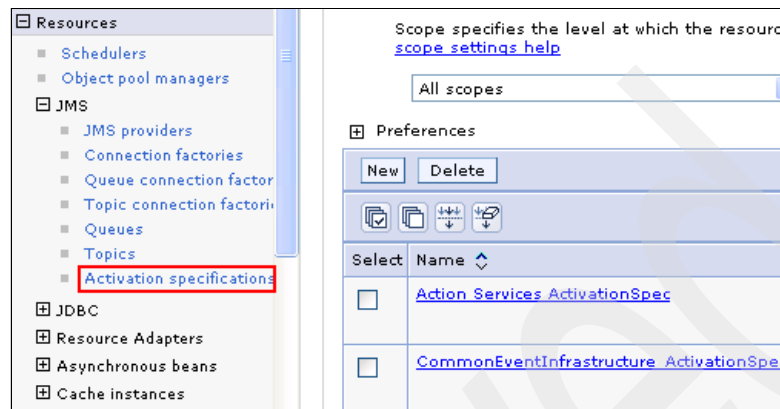

Figure A-53 Navigating to Activation specifications for WebSphere Business Monitor
3. In the WebSphere Business Monitor administration console, expand **Resources** → **JMS** and click **Activation specification** (Figure A-53). In the right pane, select **CommonEventInfrastructure_ActivationSpec**.